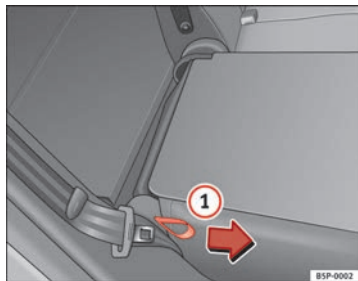

Fig. 99 Folding or opening the rear seat backrests
- Pull the loop on the side of the seat ⇒ fig. 99 ①